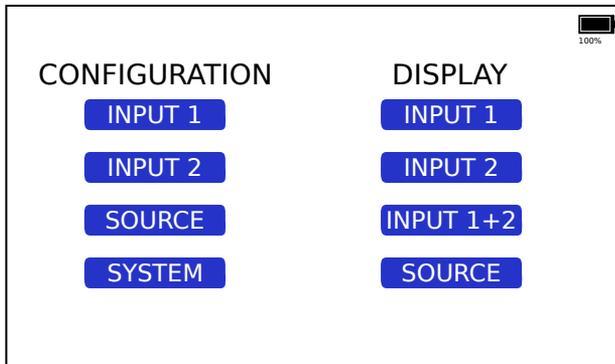
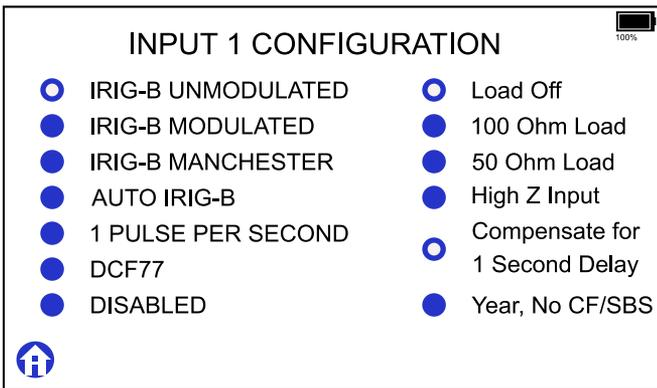

Figure 3: Home Screen
Figure 4: Input 1 Configuration Screen
1. Touch CONFIGURATION **INPUT 1** (see Figure 3) to enter the Input 1 CONFIGURATION screen (see Figure 4).